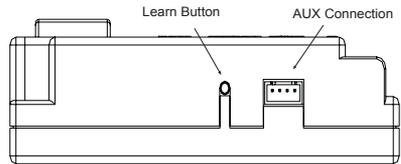

Figure 33 - Gas Module Left Side
1. There is a switch located on the right side of the module that reads REMOTE/OFF (Figure 33).
- To program the module (make sure the system has power), locate the learn button (Figure 33) on the module. Press and release the learn button. There will be a beep sound from the module. Then press any button on the remote transmitter. Once the module's internal receiver accepts the transmitter code, there will be a series of confirming beeps.